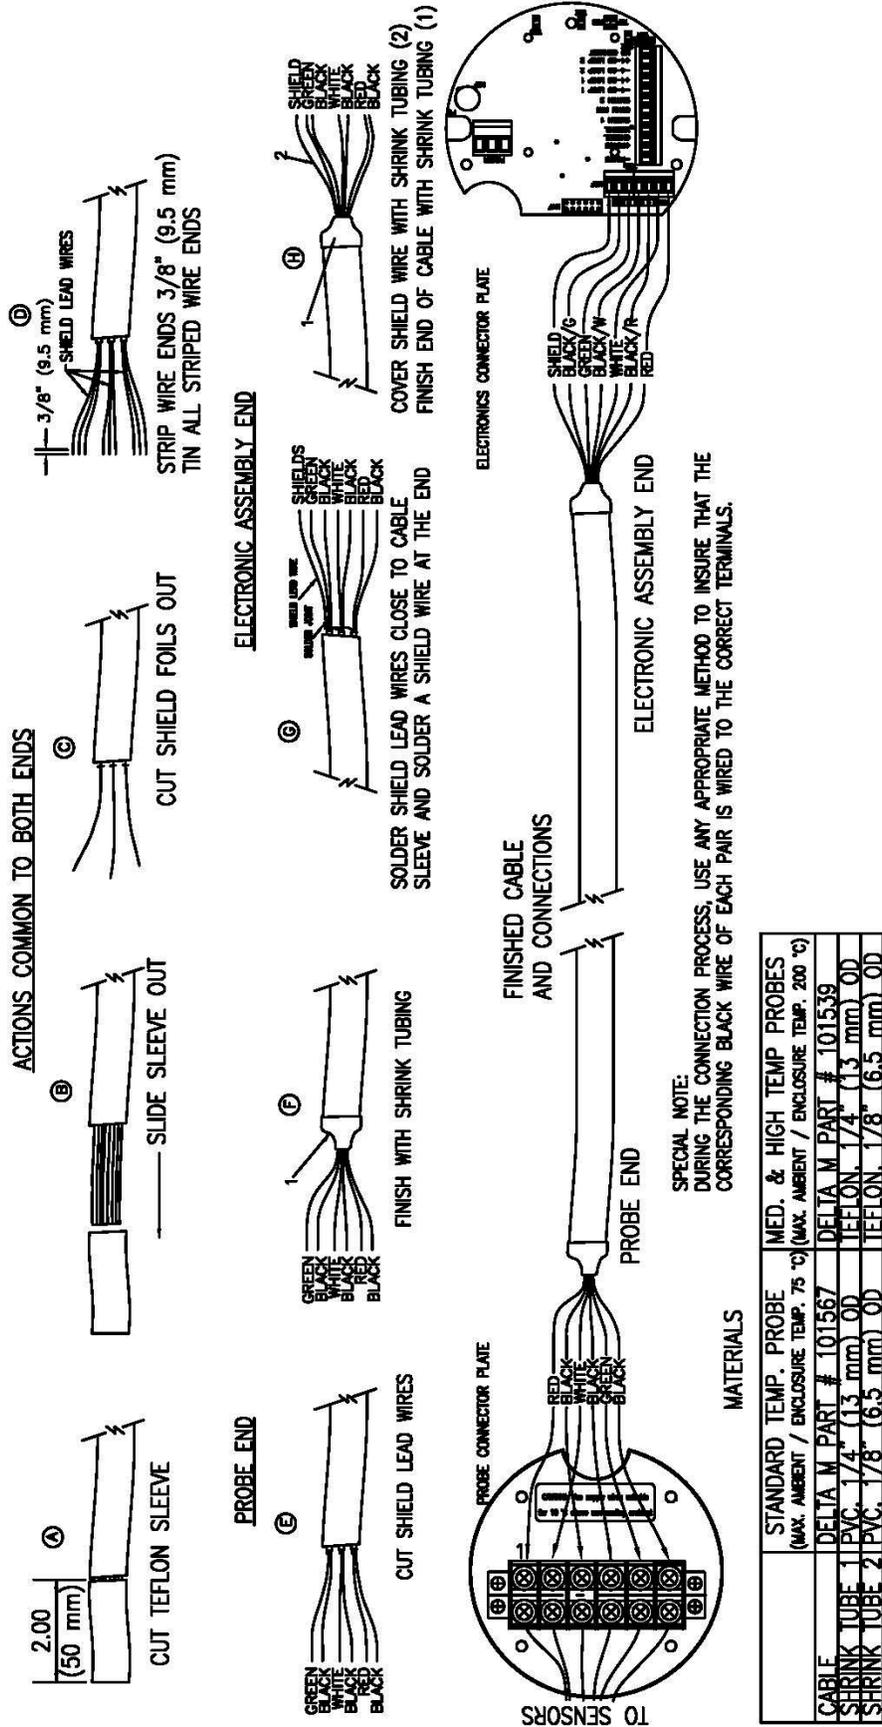

Figure 2.9: Remote Electronics Cable Termination and Connections
The Remote Probe (RP) must be wired through approved conduit with a three pair twisted shielded cable provided with the RE option. Use Figure 2.9 as a guide to prepare the remote cable assembly.